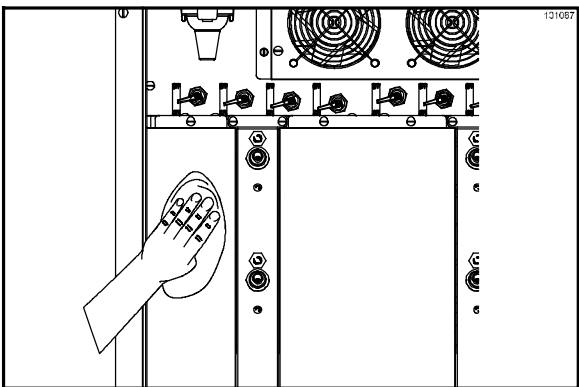

Figure 103
52. Wipe the inside of the cabinet door and inlet fittings, using an approved sanitizing solution containing an active chlorine concentrate of 100 - 200 PPM and a clean, sanitized towel. (See Figure 103.)